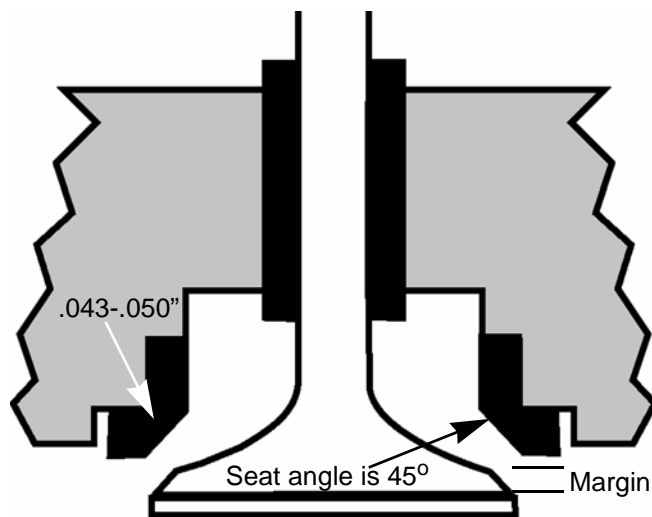

Figure 9.13
6. Inspect the valve seat. See Figure 9.13.